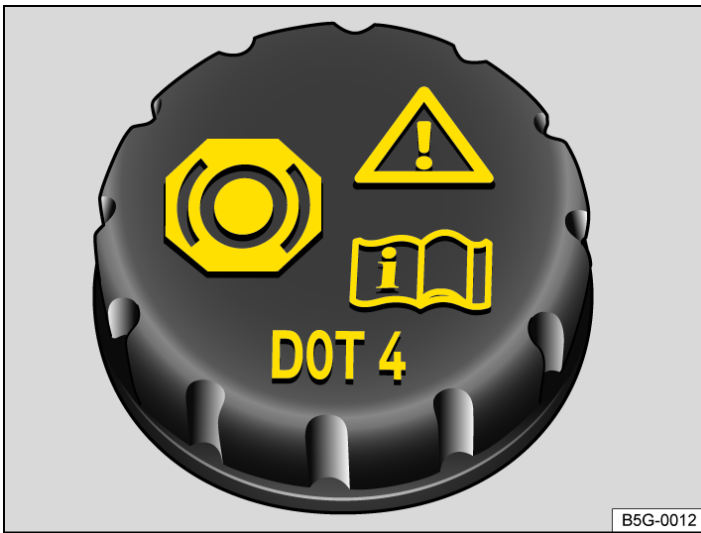

Fig. 1 In the engine compartment: cap of the brake fluid reservoir.
- Do not fill coolant above the top of the marked area → *Fig. 1*. Otherwise the excess coolant will be pressed out of the cooling system when the engine is hot and could cause damage.